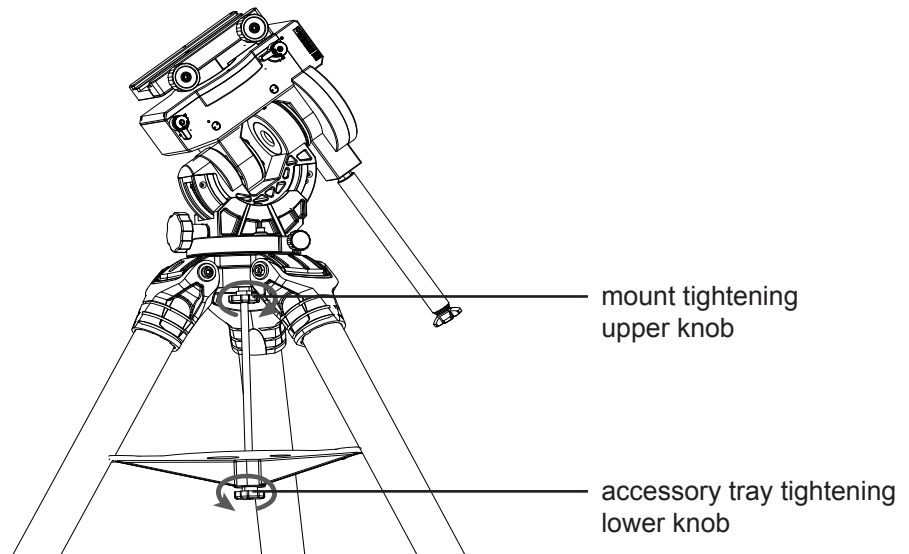

Fig. 1.2c
- Engage the tripod central rod in the CQ350-PRO mount by turning the tripod upper knob. Turn the knob until it is moderately tightened (*) (Fig 1.2c) If necessary, re-adjust the tripod legs using the bubble level on the mount as a reference.
Tighten the lower knob (Fig 1.2c).